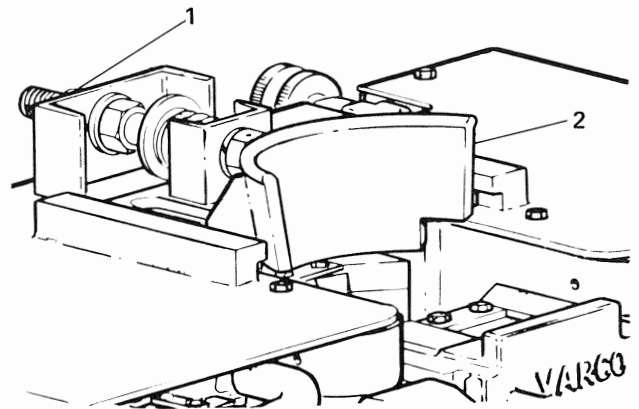

Figure 3-5. Adjusting Stabbing Guide
- d. Loosen two rear nuts (1, Figure 3-5) and align inside edge of stabbing guide (2) with outer circumference of the box. Tighten nuts.